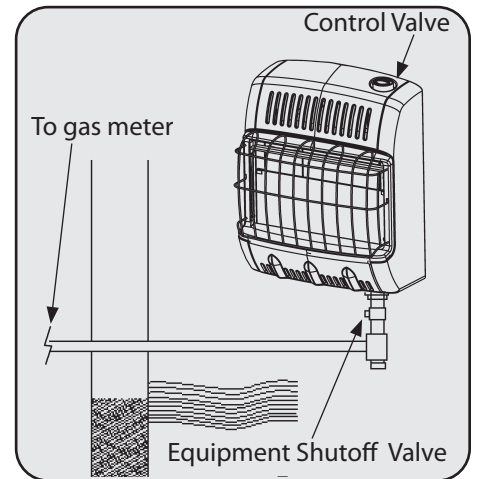

Figure 14
3. Check all joints and joints in gas supply piping system. See Figure 14. Apply mixture of liquid soap and water to gas joints. Bubbles forming show a leak.
5. Check all joints from equipment shutoff valve to control valve. See Figure 14. Apply mixture of liquid soap and water to gas joints. Bubbles forming show a leak.